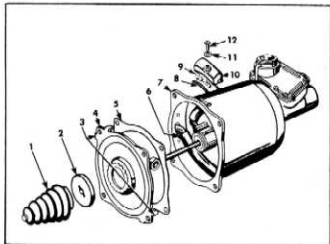

Fig. 6
3. Release lip of rod guard from the cylinder shell end plate and slip guard (1) and felt washer (2) from push rod as shown in figure 6.
4. Straighten retaining tabs on end plate (3) and remove end plate (4) and gasket (5) from vacuum cylinder (7). Remove vacuum hose (6) from tube assembly.
5. Remove screw (12) and gasket (11), air cleaner shell (10), hair (9) and shell gaskets (8) from outside of vacuum cylinder shell.
6. Remove screws (5), fitting (6) and gasket (7) from vacuum cylinder (1) as shown in figure